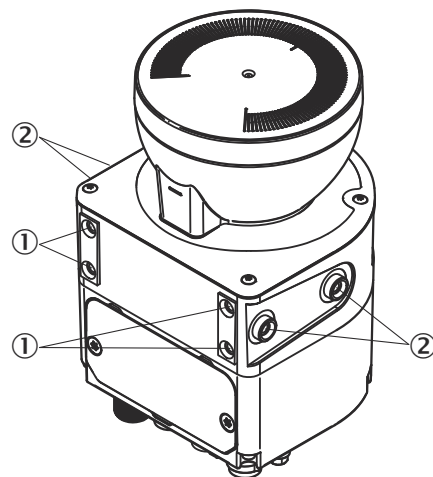

Figure 50: Mounting the safety laser scanner directly
- ① Rear M5 threaded hole
- ② Side M5 threaded hole
- ▶ Use either the rear or the side M5 threaded holes for direct mounting, see figure 50, page 80.